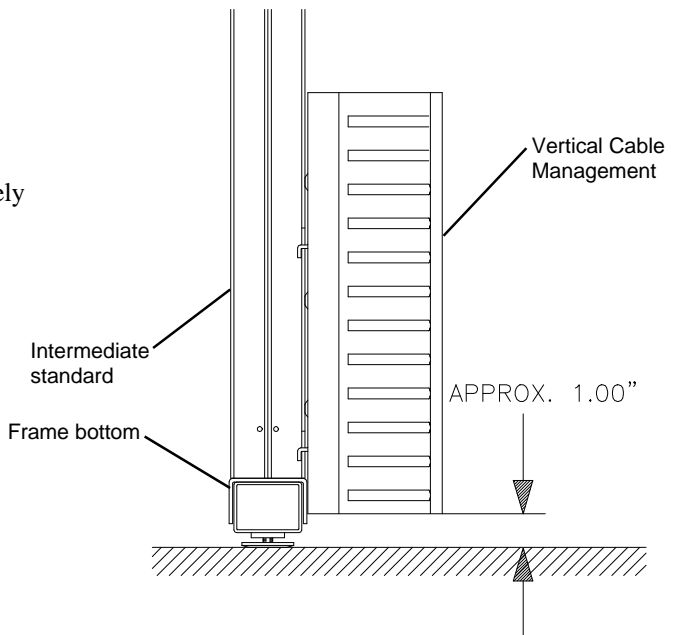

Figure 6
1. Attach the Vertical Cable Management section to the intermediate standard. Adjust proximity to floor in 1" increments as desired. See **figure 6**.